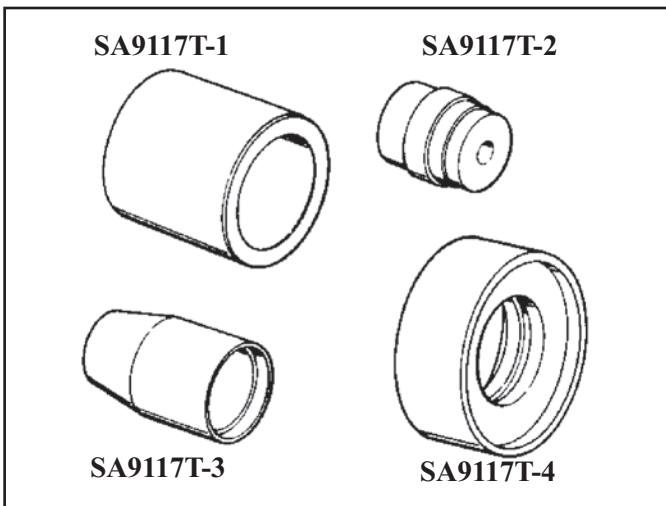

Figure 106
2. All clutch pistons are to be installed with Saturn's 4 piece seal protector installation kit SA9117T4 or equivalent (See Figure 106).